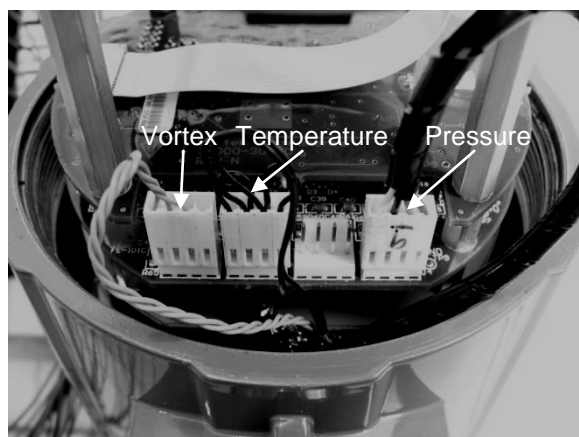
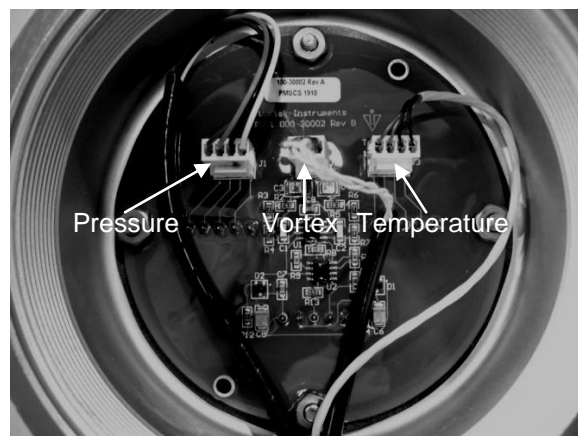

Figure 62 Electronics Stack Sensor Connections
Figure 63 Remote Feed through Board Sensor Connections
3. Using ESD precautions and hazardous area precautions, remove the electronics enclosure window cover. Disconnect the vortex sensor from the electronics stack or remote feed through board. Refer to Figure 62 or Figure 63. Measure the resistance from each outside pin to the meter ground - each should be open. Measure the resistance from the center pin to the meter ground – this should be grounded to the meter.
3. Using ESD precautions and hazardous area precautions, remove the electronics enclosure window cover. Disconnect the temperature sensor from the electronics stack or the remote feed through board. Refer to Figure 62 or Figure 63. Measure the resistance across the outside pins of the temperature sensor connector. It should read approximately 1080 ohms at room temperature (higher resistance at higher temperatures).
3. Locate the sensor harnesses which come up from the neck of the flow meter and attaches to the circuit boards. Make note of the location of each sensor connection. Refer to Figure 62 or Figure 63. The vortex sensor connection is on the left, the temperature sensor connection (if present) is second from the left, and the pressure sensor connection (if present) is the right most connector. Use small pliers to pull the sensor wiring connectors off of the circuit boards.